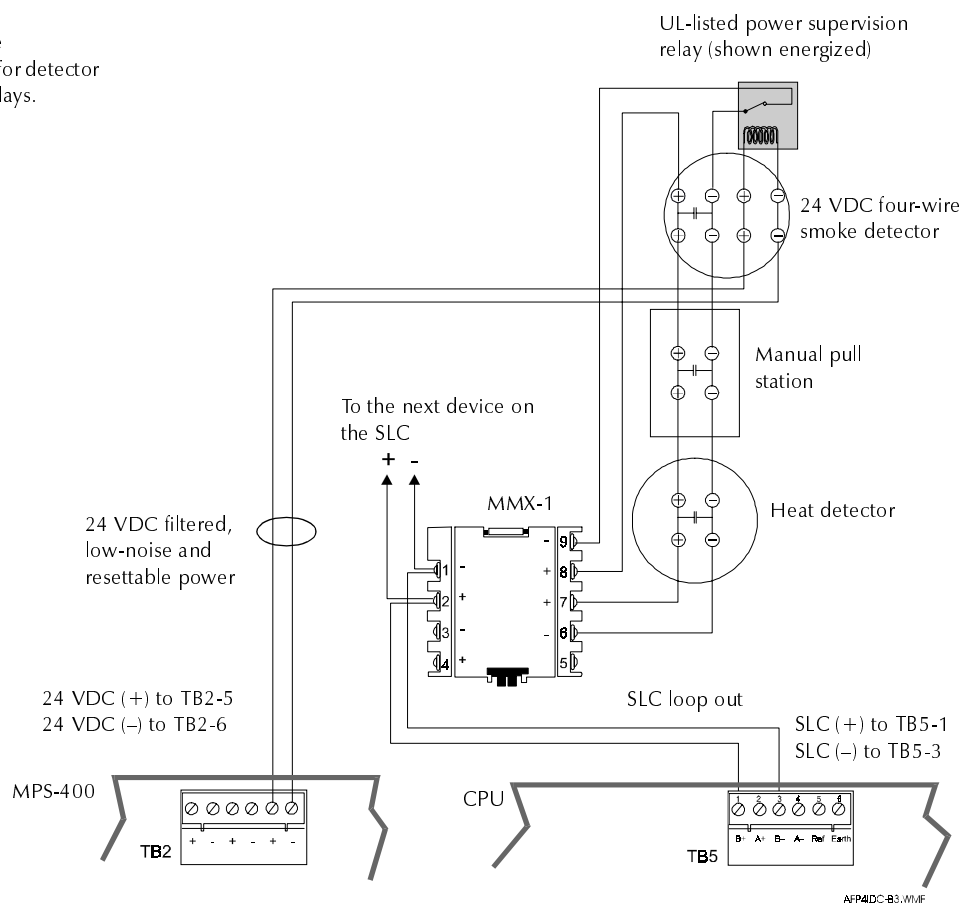
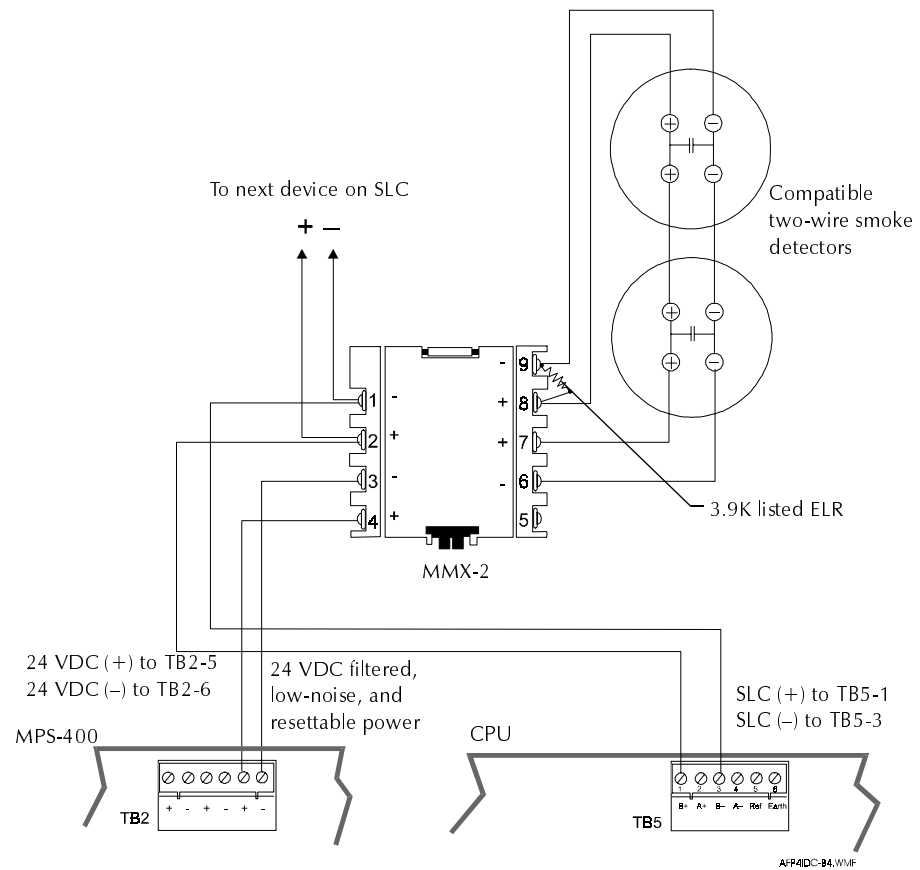

Figure 2-71 Typical Style D (Class A) IDC Wiring with MMX-1s
Figure 2-72 Typical Style D (Class A) IDC Wiring with MMX-2s
- NFPA Style D Initiating Device Circuit – see Figure 2-71 and Figure 2-72.
Figure 2-71 shows typical wiring for a supervised and power-limited NFPA Style D (Class A) IDC using MMX-1 modules. Maximum IDC resistance is 20 ohms.
Figure 2-72 shows typical wiring for a Style D IDC using an MMX-2 module. For electrical specifications for a Style D IDC, see Table 2-21.
Figure 2-72 shows typical MMX-2 wiring for a supervised and power-limited NFPA Style D (Class A) IDC: